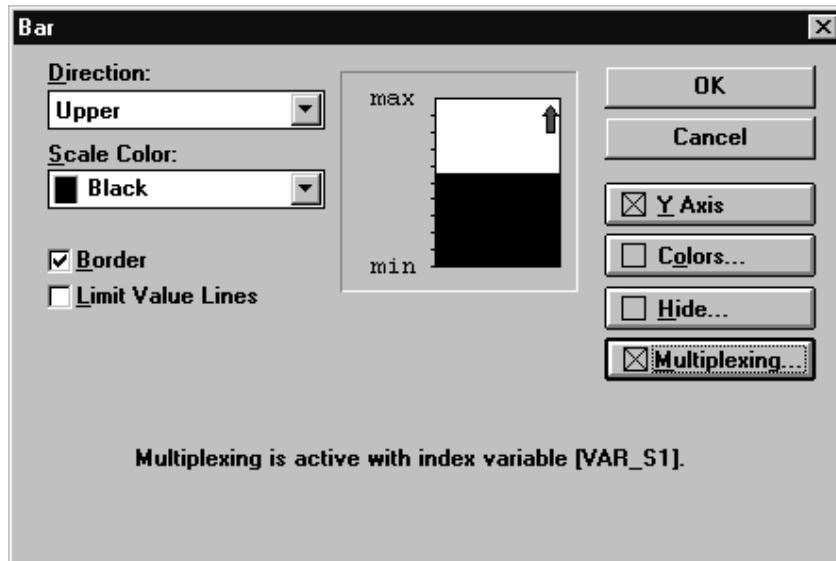

Figure 7-22 Display with Active Multiplexing
9. Exit from the *Multiplexing* dialog box by clicking *Ok*. There is now a check mark on the *Multiplexing* button in the *Bar* dialog box to indicate that multiplexing is in use (refer to figure 7-22). In addition, the index variable is specified instead of the *Variable* field.